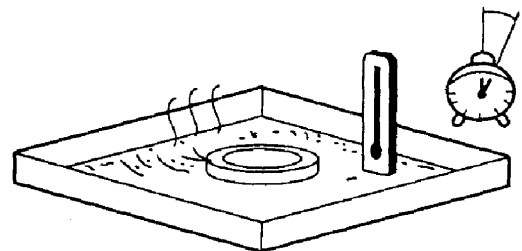

Figure 28
13. Use warm water to expand slipper seal. See Figure 28. This will make seal easier to install. Set slipper seal in 60 -100° C (140 - 212° F) water for 5 minutes or longer.